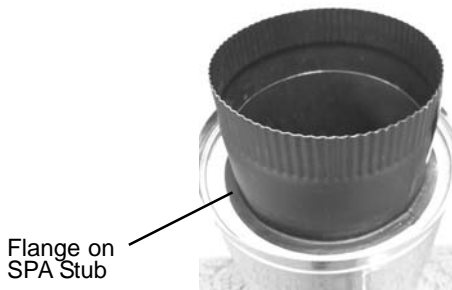

Figure 3
2. Ensure the SPA Stub flange is snug with plastic retainer (Figure 3).